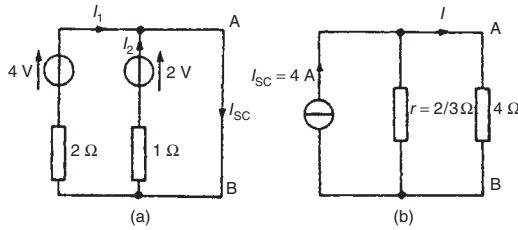

Figure 13.57
- (i) The $4\ \Omega$ branch is short-circuited as shown in Fig. 13.57(a)
- (ii) From Fig. 13.57(a),